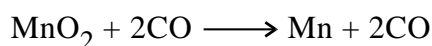

**Fig. 6.4 The Blast Furnace**
For extracting iron, smelting is carried out in a blast furnace (Fig. 6.4). A blast furnace is a huge cylinder made of steel. Its height may vary from 120 to even 200ft and width is about 30 ft. in diameter. The inside of the furnace is lined with very high melting refractory bricks. The calcined and roasted ore along with limestone ( $\text{CaCO}_3$ ) and coke (C) (ore 8 parts, lime stone 1 part and coke 4 parts) are lifted to the top of the furnace and released at the mouth of the furnace provided with a cup and cone arrangement. Near the bottom of the furnace blast of hot air is forced into the furnace through water cooled nozzles called **tuyers**.